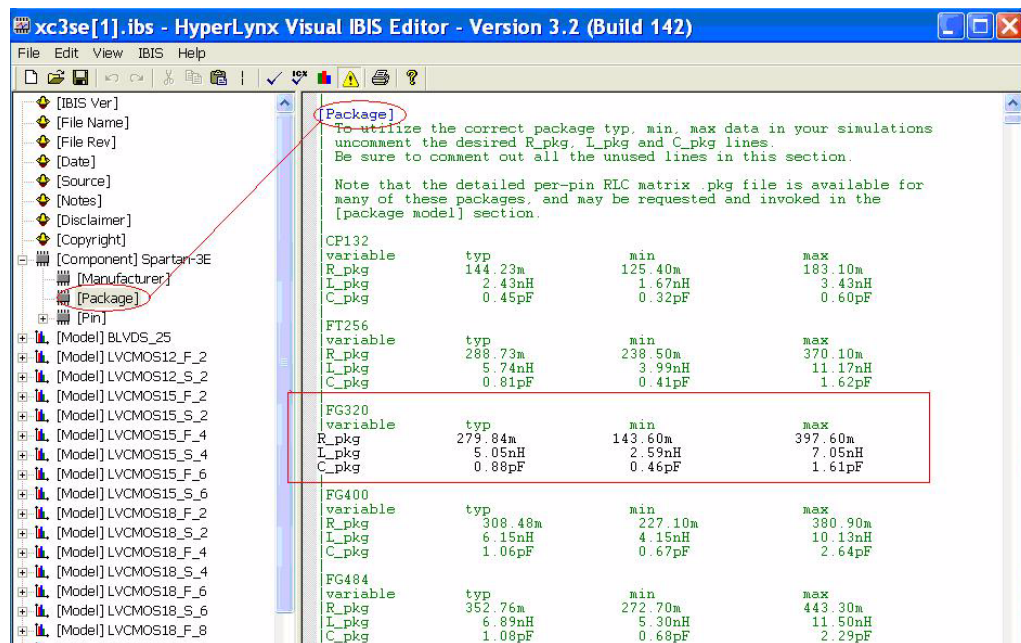

Figure 4-4: Embedded Electrical Parasitics Data
- **The IBIS header file - [Package].** Most electrical data generated for recent device families will be summarized in the [Package] section of the device IBIS file. The [Package] section data will be formatted in the Typical, Min and Max format of the file. In the completed IBIS file, all of the packages should be represented. You may need to uncomment the specific package of interest. The [Package] section of the Spartan™-3E file is shown in Figure 4-4 to illustrate this method of conveying package-specific electrical data for a device family. Note that in this example, the FG320 is uncommented for use. The device IBIS files can be downloaded from: [http://www.xilinx.com/xlnx/xil\\_sw\\_updates\\_home.jsp?url=/support/download.htm](http://www.xilinx.com/xlnx/xil_sw_updates_home.jsp?url=/support/download.htm)
3. Specific device family data may be obtained from the IBIS file (see example in Figure 4-4), or they can be requested through your field engineer.
Figure 4-4 is a representation of electrical parasitics data embedded in a component family IBIS file.
- Base [Package] section data in IBIS device file. The base [Package] section data is provided for all newer devices in the base IBIS file. This data usually lists the packages used with Typical, Min, and Max parasitics, as illustrated in Figure 4-4.